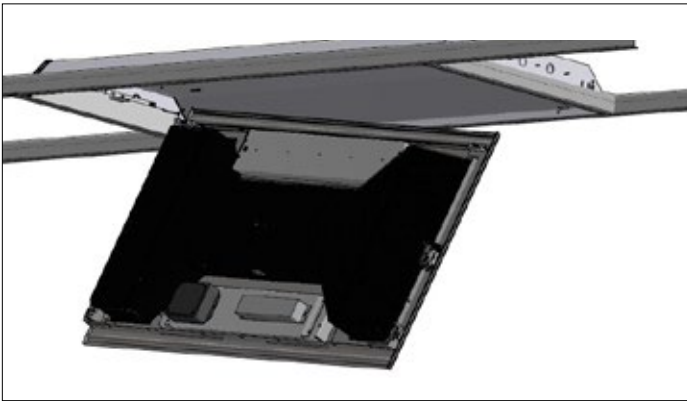

Fig. 8a
8. Hook Cleanse® Troffer Retrofit fixture on the spring-loaded hinges. Locate the one hinge pin in the mounting bracket slot and swing into place locating the other pin into the opposite mounting bracket. (See Fig. 8a & 8b)